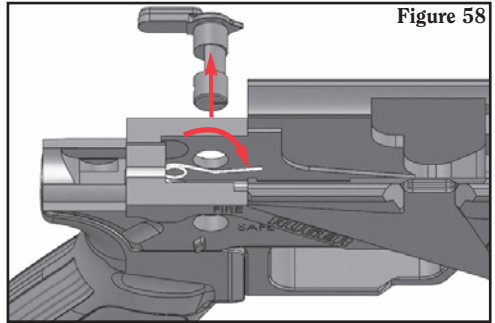

Figure 58
1. As you depress the long leg of the selector spring with your finger or a soft tool, remove the safety selector switch by pulling it out from the indicator side. (See Figure 58.)